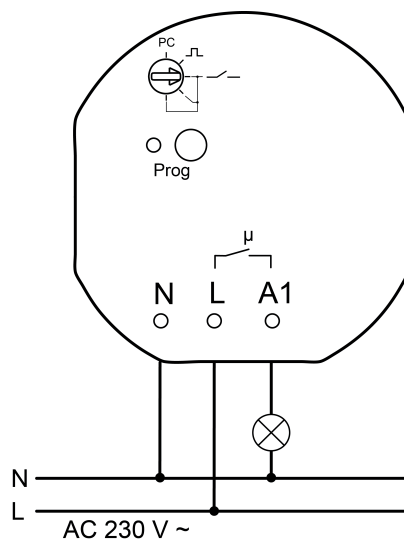
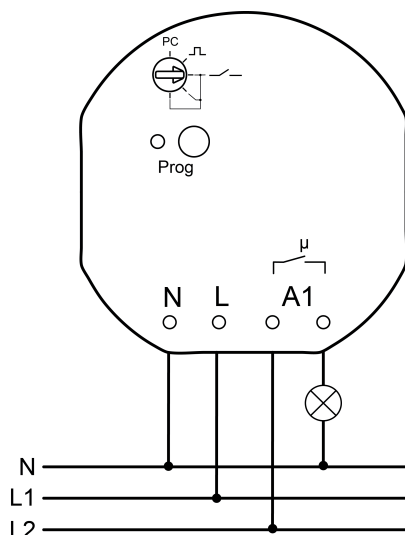

Figure 3: Connection example radio switching/push-button actuator
Figure 4: Connection example radio switching/push-button actuator potential-free
- Connect load as shown in the connection example (Figure 3) or (Figure 4).